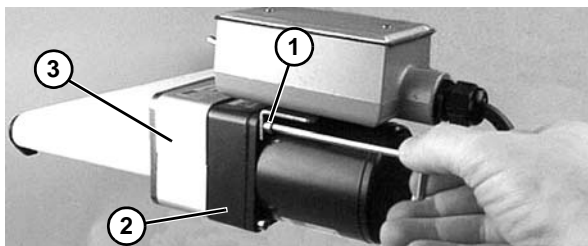

Figure 53
3. Remove four (4) screws (Figure 53, item 1). Remove gearmotor (Figure 53, item 2) and top cover (Figure 53, item 3).
7. Insert top cover (Figure 53, item 3) into bottom cover. Mount assembly with two (2) top screws (Figure 53, item 1). Tighten to 45 in-lb (5 Nm).